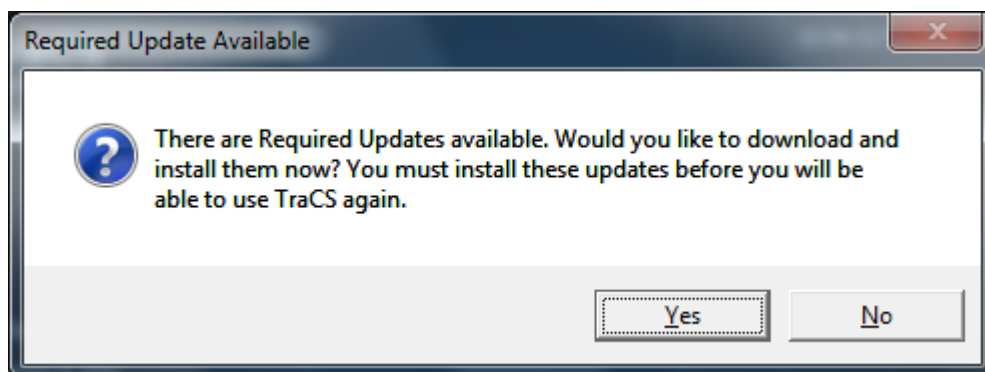

Figure 151. Required Update Available Window
1. Log in to TraCS. If required updates are available the **Required Update Available** window opens, as shown in Figure 151.